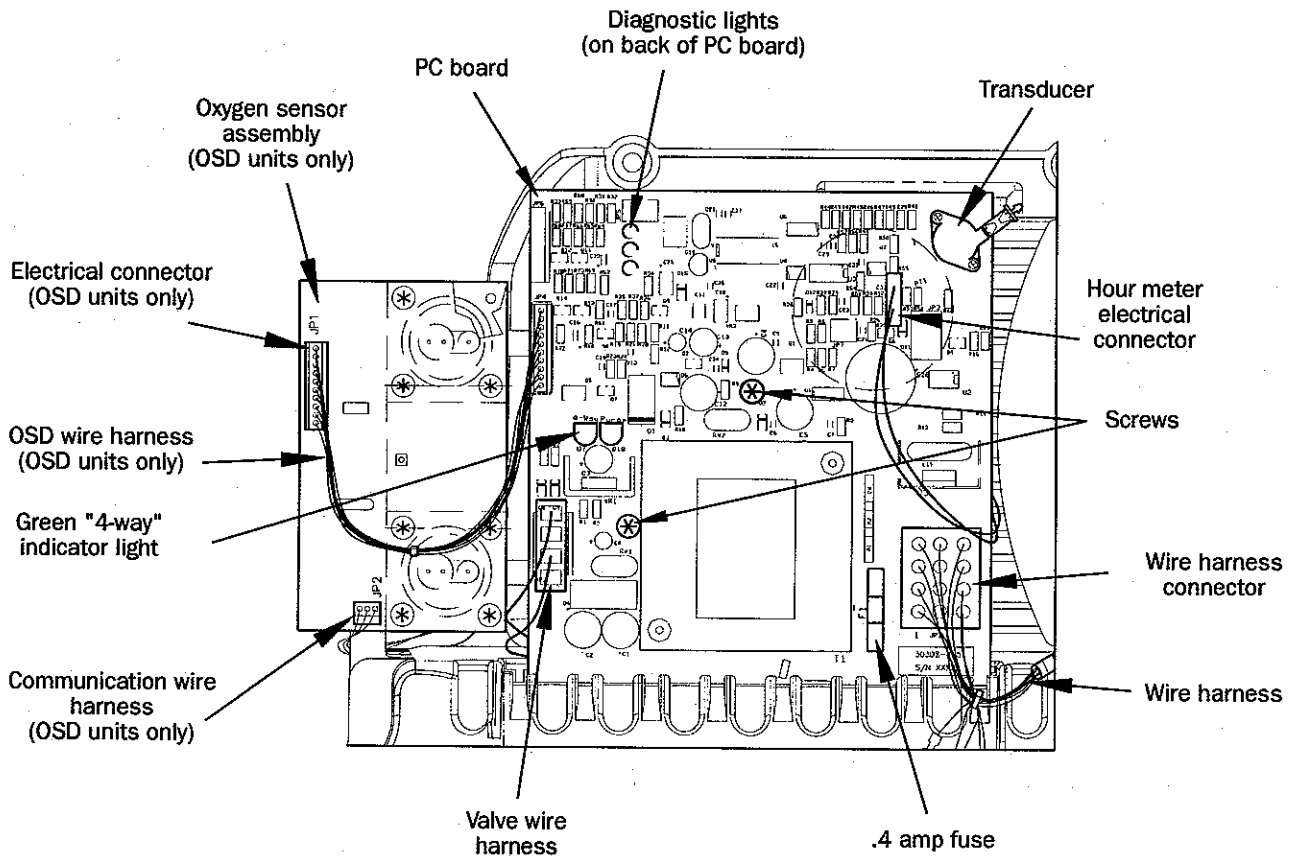

Figure 44
## To remove and replace the PC board (Figure 44):
3. Disconnect the two terminal connectors for the OSD at the end of the wire harnesses by depressing the latches and pulling them straight out (Figure 44).